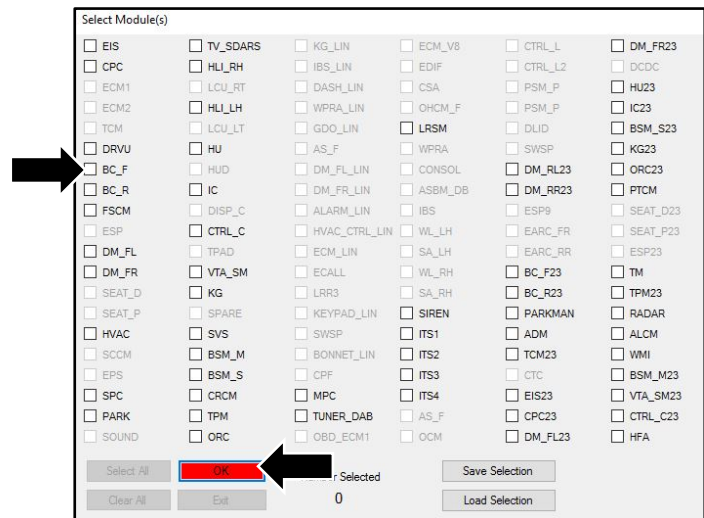

Figure 2
- Select “BC\_F” then click “OK” (refer to Figure 2).